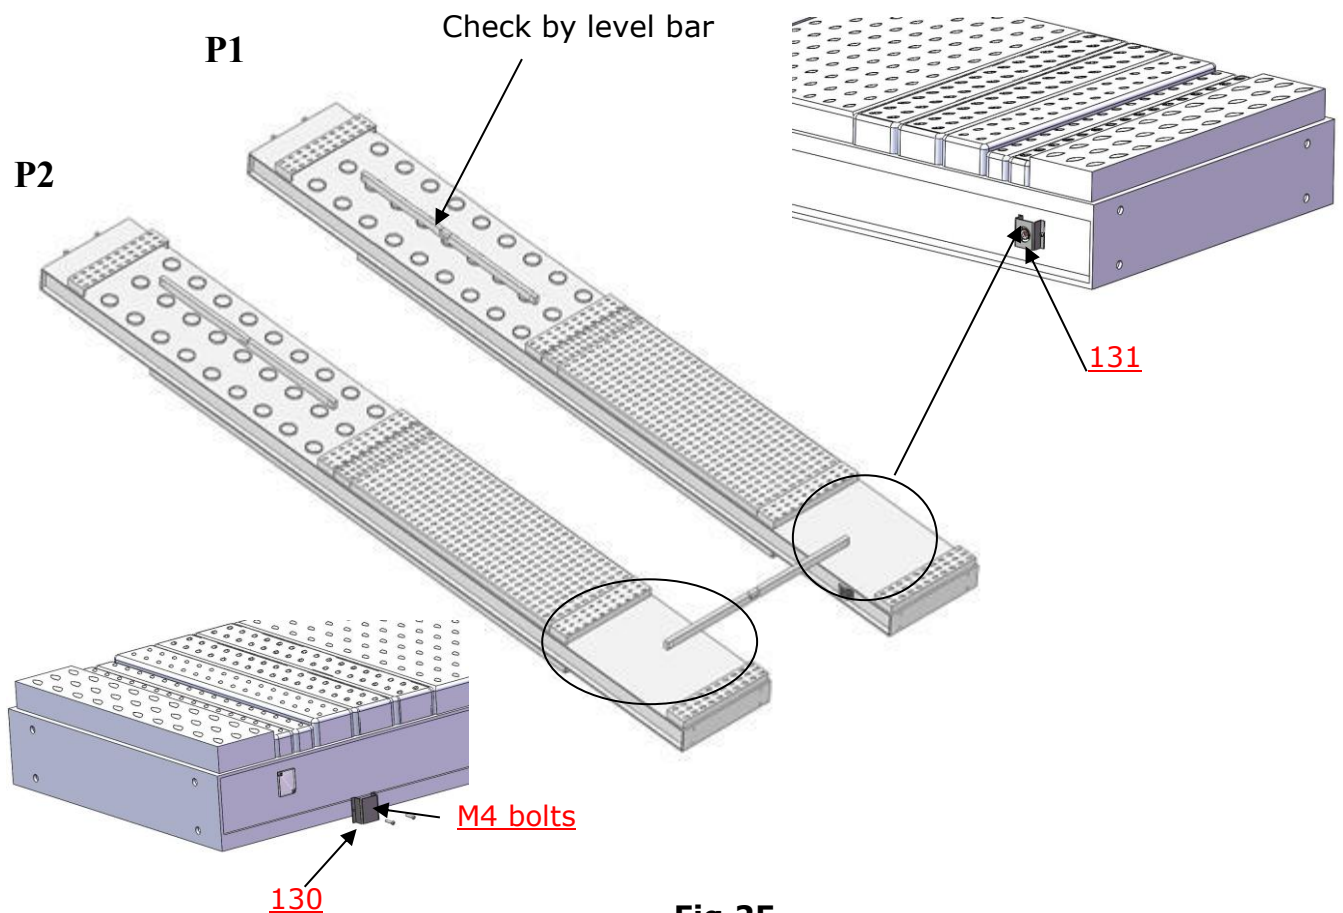

Fig.25
1. Tear down the cover of photo cell device on offside column firstly (See Fig.25)
2. Turn the toggle switch (SA) to **ON** Before filling oil, then raise the lift to the highest position to fill oil.